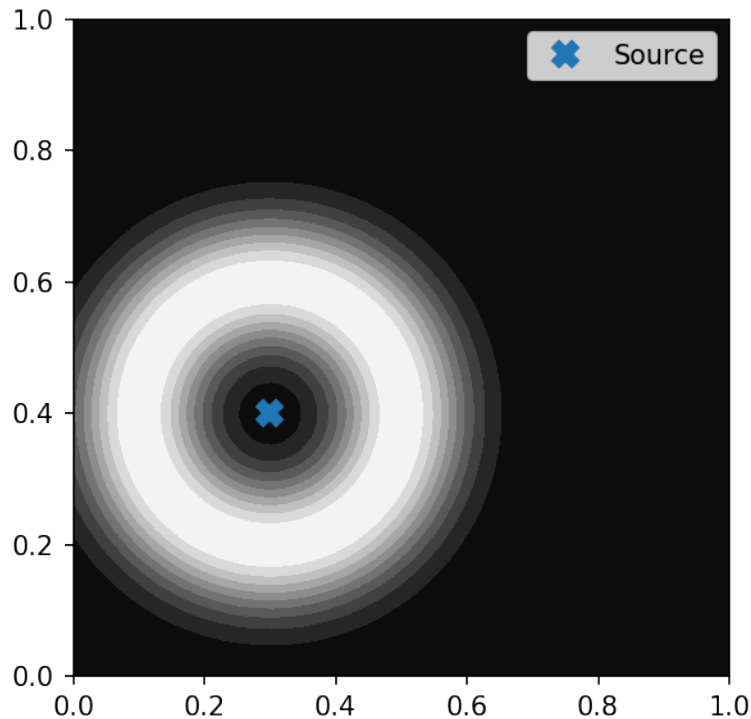

Figure 1: Illustration of the measurement model. The “brighter” the region is, the more likely the sensor will have a *Positive* reading there.
1. (20 pts) Assume the source location is $s = [0.3, 0.4]$, uniformly sample 100 locations in the space, and simulate one measurement for each location. Plot the measurements in the space, if the measurement is positive, plot it as a green dot, otherwise plot it as a red dot. Visualize the “ring-shaped” background seen in Figure 1 as well.